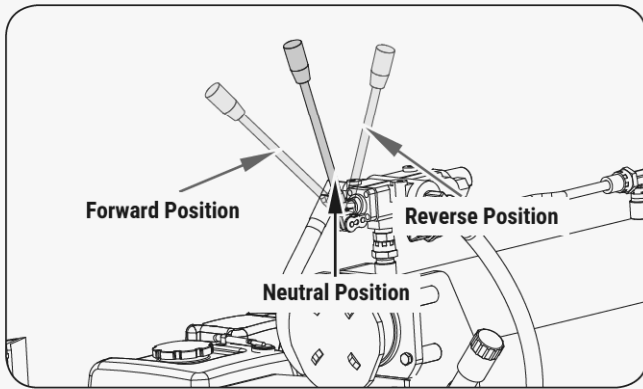

Figure 16
8. Lock the moving handle back to upward position for movement of the machine. (See **Figure 16**)